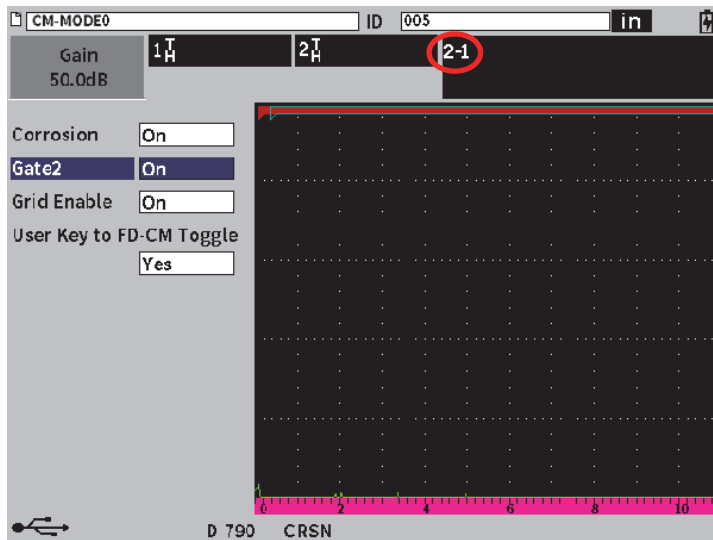

Figure 11-41 Corrosion dialog box
1. In the corrosion module () **Corrosion** dialog box, set **Gate2** to **On** (see Figure 11-41 on page 222).